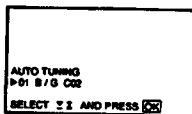

Fig. 6
- 3 Select "AUTO TUNING" with Δ or ∇ and press OK. The AUTO TUNING menu appears. (See Fig. 6.)